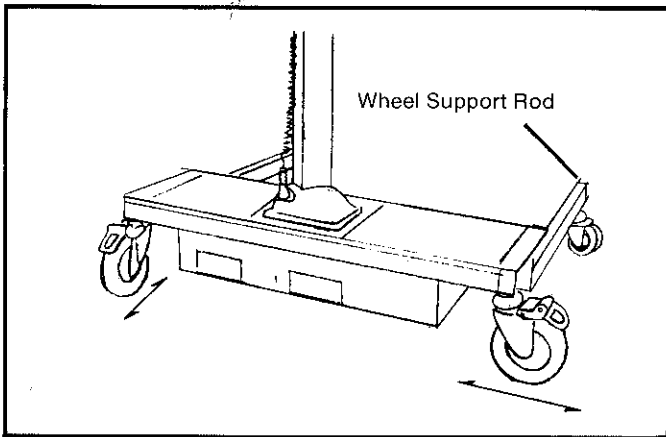

Figure 3-4
Note: We recommend that when locking the lift the left caster (gray release) be parallel to the wheel support rods and the right wheel (green release) be at 90° to the caster wheel support rods. Figure 3-4. This will prevent the lift from moving in any direction.
- A. Lock the two rear caster wheels as pointed out in Section 3.2.1, Figure 3-4.
1. Lock two rear casters, refer to Section 3.2.1, Figure 3.4.